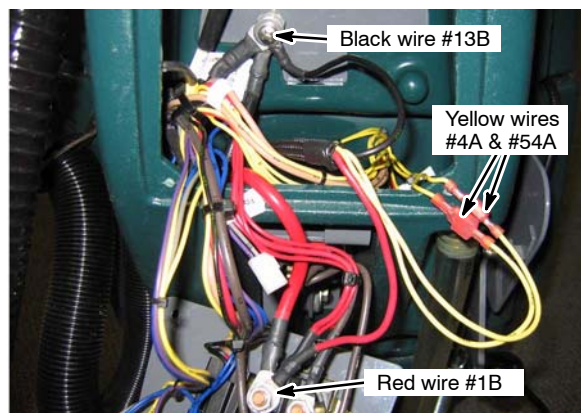

Fig. 7
7. Disconnect the on-board charger wire harness terminals as shown (Fig. 7).